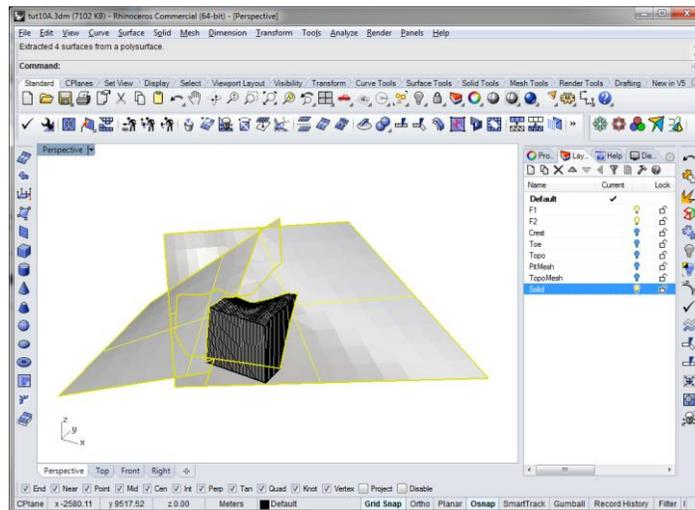

Figure 164: Extracting the exterior portions of the faults.
4. `_ExtractSrf`, (option `Copy = No`), and click on any portions of the faults sticking outside the computational domain, followed by `<ENTER>` to complete the surface extraction (Figure 164).